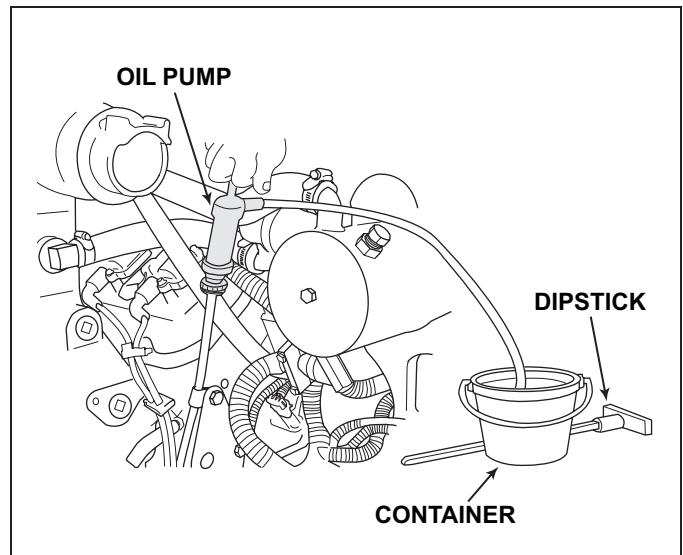

Figure 11-24 Engine Oil Removal
1. With the engine at normal operating temperature, remove the dipstick and install a crankcase oil pump onto the dipstick tube (Figure 11-24). Insert the discharge hose into a suitable container. Pump the oil from the engine until the crankcase is empty. Remove the oil pump from the dipstick tube.